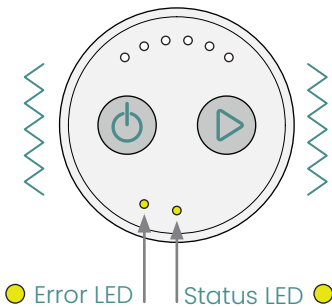

Figure 12.7.1
- Error or Status LED **lights are yellow with five long vibrations** (Figure 12.7.1).